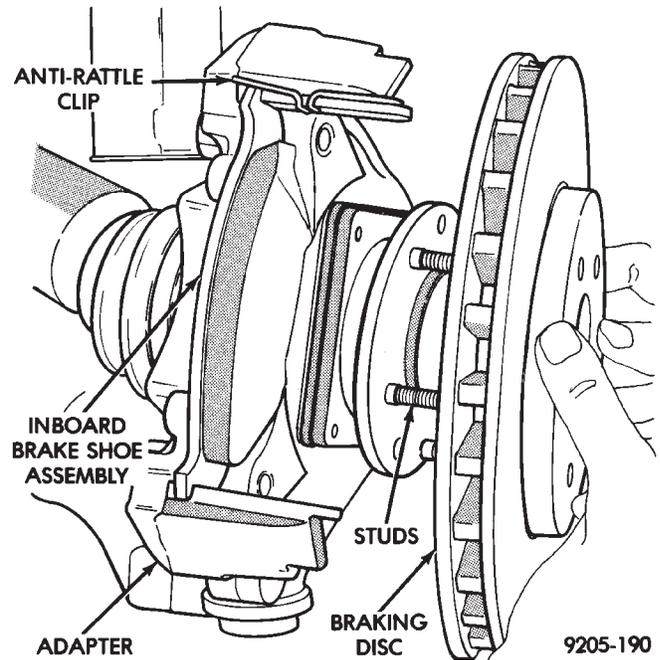
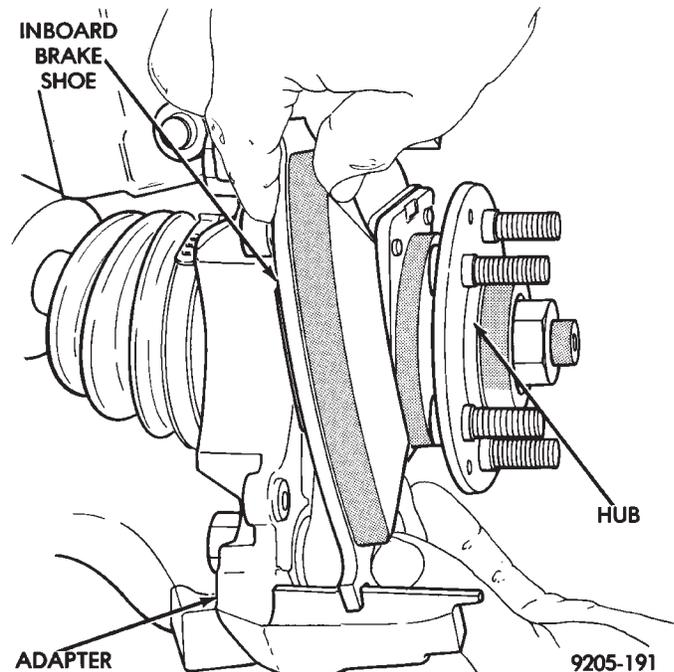
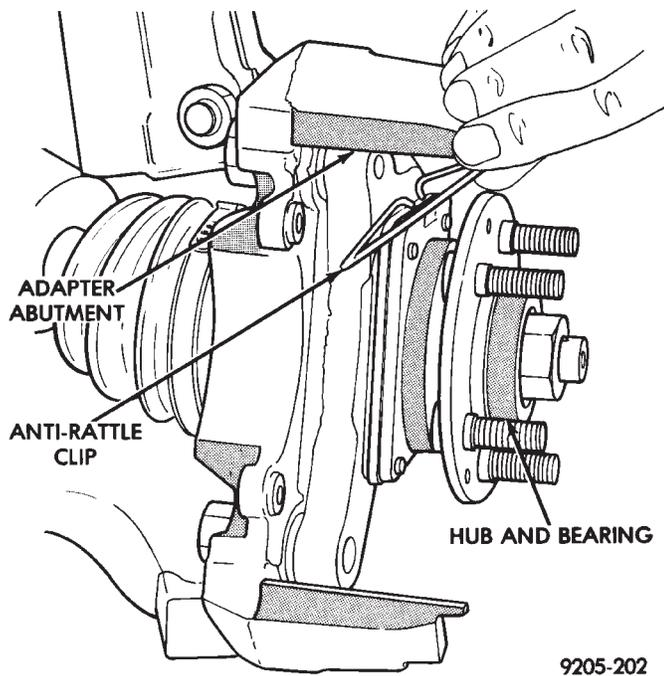

Fig. 6 Removing or Installing Braking Disc
Fig. 7 Removing or Installing Inboard Shoe Assembly
Fig. 8 Remove Or Replace Anti-Rattle Clip
- (8) Remove the braking disk (rotor) from the hub by pulling it straight off the wheel mounting studs (Fig. 6).
- (9) Remove the inboard brake shoe assembly by sliding it out along the bottom adapter abutment until brake shoe assembly loosens from anti-rattle clip (Fig. 7).
- (10) Remove the anti-rattle clip from the top adapter abutment (Fig. 8).
(1) Lubricate both adapter abutments with a liberal amount of Mopar® Multipurpose Lubricant, or equivalent.
(2) Install the anti-rattle clip on the upper abutment of the caliper mounting adapter (Fig. 8).
(3) Remove the protective paper from the noise suppression gasket on both the inner and outer brake shoe assemblies (if equipped).
(4) Install the new inboard brake shoe assembly on the adapter by sliding it along the adapter abutments. Be careful not to get any grease from the adapter abutment on the surface of the brake lining material, (Fig. 7). Be sure inboard brake shoe assembly is correctly positioned against anti-rattle clip (Fig. 6).
(5) Reinstall the Braking Disc on the hub, by installing it over the wheel studs until it is seated against the face of the hub (Fig. 6).